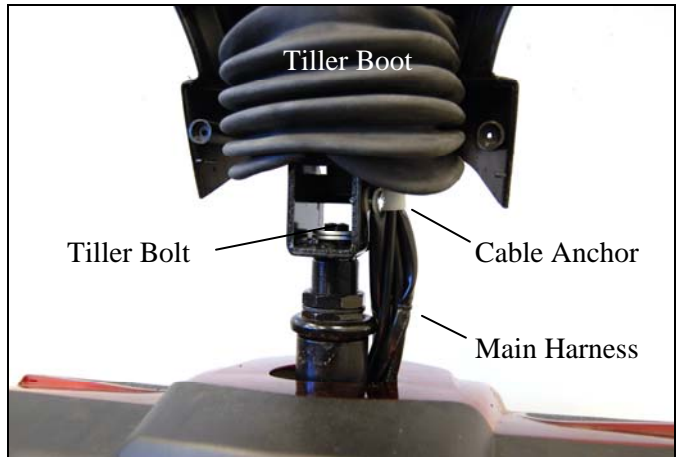

Figure 21. Tiller Removal
- 5) Lift the rubber tiller boot to access the main harness anchor and the tiller bolt. See figure 21.
- 8) Disconnect the (4) head light wires underneath the front shroud.